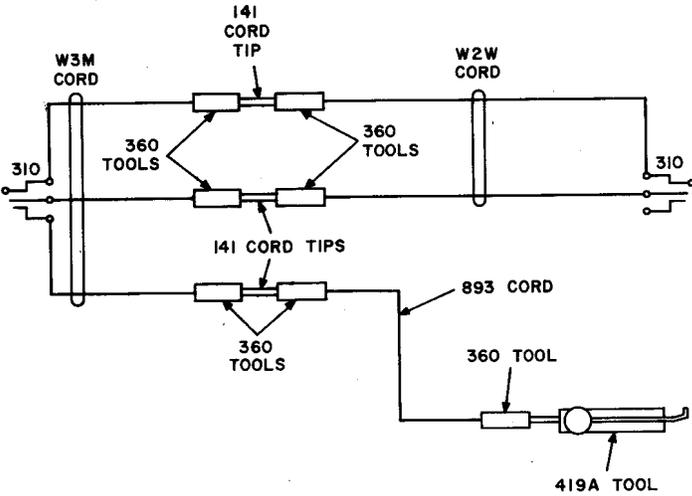

Fig. 1—Test Cord Assembly
**2.14** Test cord assembly shown in Fig. 1, consisting of a W3M cord, 6 feet long, equipped with a 310 plug and three 360 tools (3W4A cord); a W2W cord, 6 feet long equipped with a 310 plug and two 360 tools (2W17A cord); an 893 cord, 6 feet long, with a 360 tool at each end (W13B cord); a 419A tool; and three 141 cord tips [for use in connecting line finder test set to line finder test
20b	If test jack is not located on line finder— Insert plug of 6-foot W3M cord, as shown in Fig. 1, into test set LF jack.